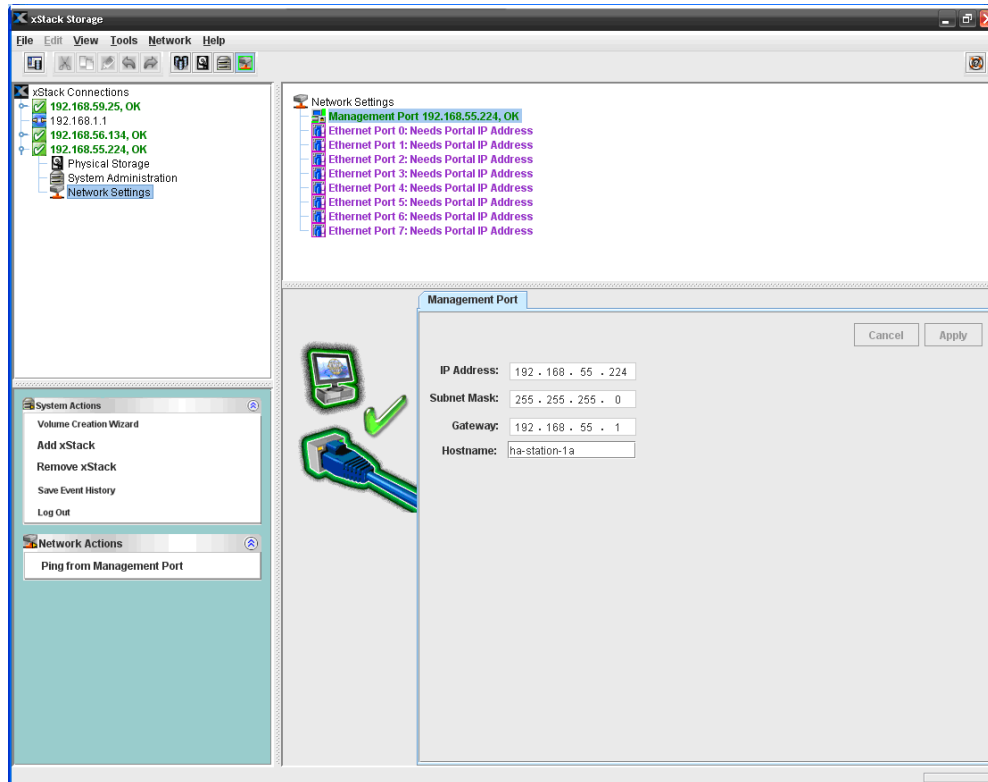

Figure 7-2. Management Port Tab
- Configure the NIC in the management PC to use the first 3 octets of the new IP address (in the example in Figure 7-2, the first three octets are **192.168.55**).
*The **Management Port** tab shows the settings for the selected management port (see Figure 7-2).*